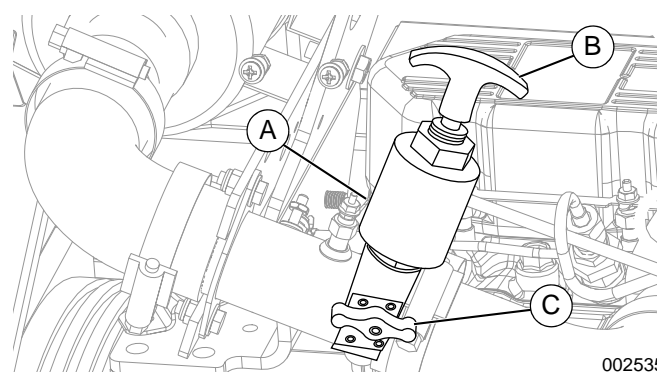

Figure 3-62. Positive Air Shutdown
See Figure 3-62. This unit may be equipped with a positive air shutdown (A) on the air intake. The PAS system automatically stops the engine if an overspeed is detected. Engine overspeed can occur if the atmosphere contains elevated levels of combustible propane or natural gas.